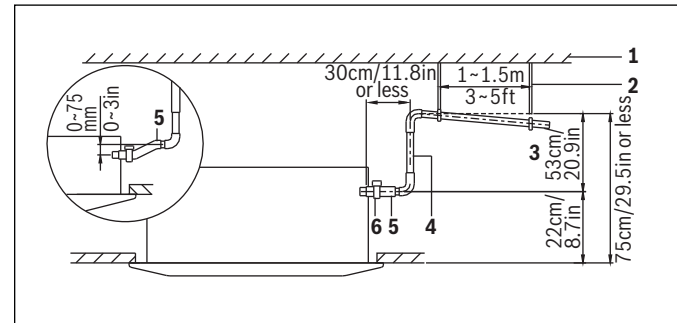

Figure 16
- ▶ To prevent air bubbles, install the drain hose level or slightly tilted up (<75 mm/3 in). The incline of drain hose should be 75 mm/3 in or less to reduce the force on the drain socket. See figure 16 for detail location.